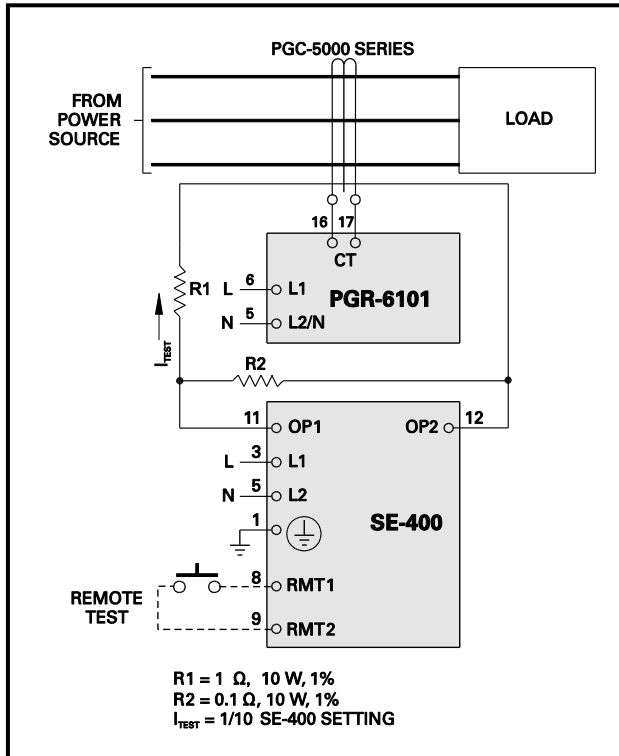

FIGURE 8. Ground-Fault-Test Circuit.
- Verify proper reaction of the circuit-interrupting device in response to a simulated or controlled ground-fault current. To simulate ground-fault current, use CT-primary current injection. Fig. 8 shows a test circuit using the SE-400 Ground-Fault-Relay Test Unit. The SE-400 has a programmable output of 0.5 to 9.9 A for a duration of 0.1 to 9.9 seconds. Fig. 8 shows the use of resistors that reduce the injected current to 10% of the SE-400 setting. Set the test current to 120% of the PGR-6101 setting. Inject the test current through the CT window for at least 2.5 seconds. Verify that the circuit under test has reacted properly. Correct any problems and re-test until the proper reaction is verified.